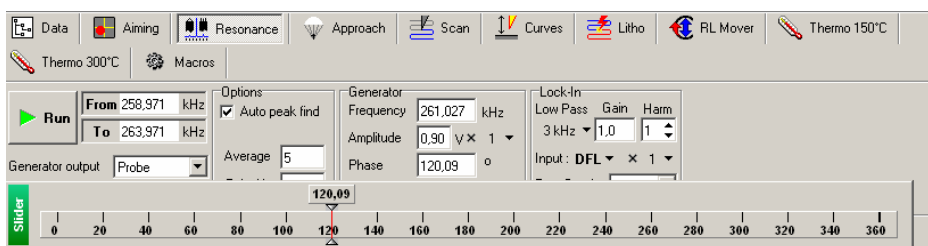
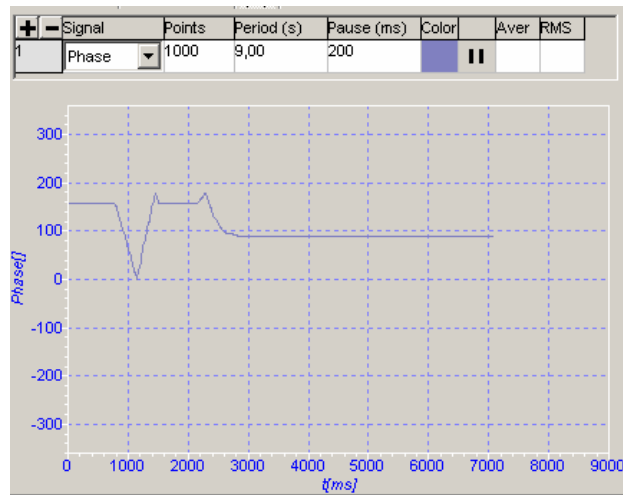

Fig. 4-59
Fig. 4-60
3. Go to “Resonance” bookmark and modifying “Phase” parameter (Fig. 4-59) (generator initial phase), set the value of the measured phase in oscillograph in the middle of its range approximately (Fig. 4-60). The value cannot be set near the range limits, i.e. near 0 or 180 degrees, for in this case all possible modifications of the measured phase would be of the same sign.
- Change the generator initial phase in “**Phase**” parameter (Fig. 4-59);